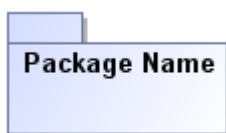
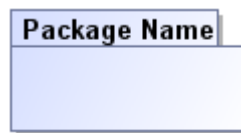

Figure 117 -- Package Name on Top
Figure 118 -- Package Name in Tab
2. Select either (i) **Top** to display the package name on top (Figure 117) or (ii) **In Tab** to display it in the tab (Figure 118).